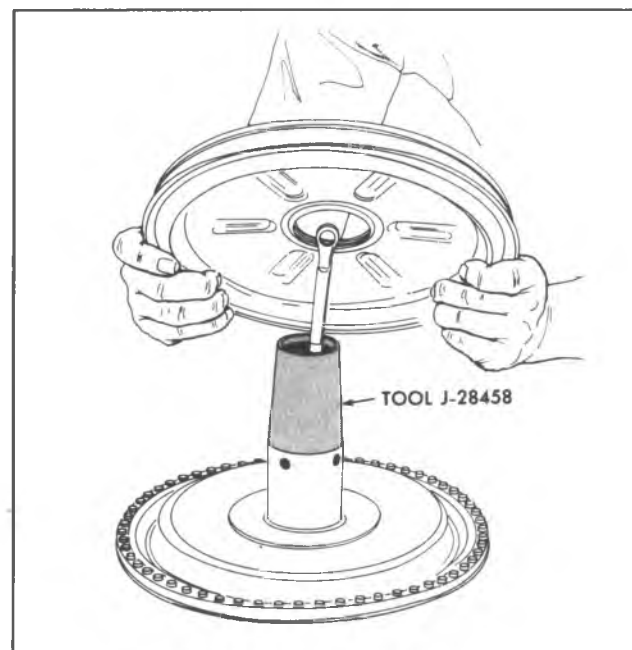

Fig. 5-6A—Installing Divider
20. With Tool J-28458 still positioned on the power piston, hold the housing divider so that formed over flange of the divider faces up. Press the divider down over the tool and onto the power piston tube where it will rest against the secondary diaphragm (fig. 5-6A).